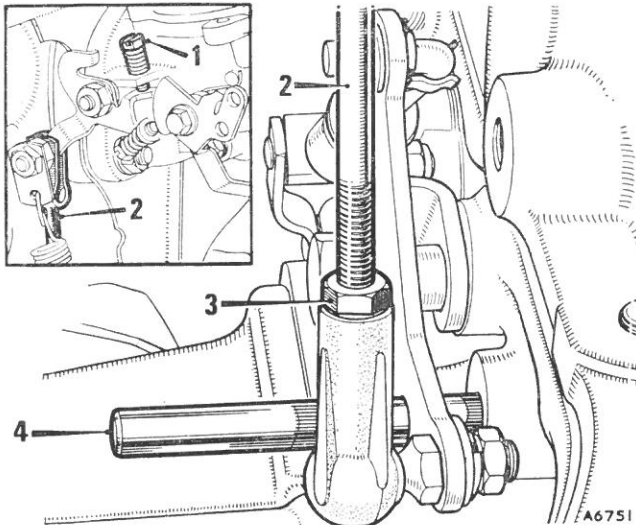

Fig. Fa.3
- (18) With the carburettor correctly tuned, adjust the throttle adjusting screw to give a tachometer reading of 650 r.p.m. at tickover.
- (19) Insert a  $\frac{1}{4}$  in. (6.4 mm.) diameter rod through the hole in the governor control rod bell-crank lever and into the hole in the transmission case (Fig. Fa.3).
- (20) Slacken the locknut (3) (Fig. Fa.3) and adjust the length of the rod to suit the carburettor linkage in the tick-over position.
- (21) Reconnect the governor control rod to the carburettor. Tighten the ball joint locknut and remove the checking rod from the bell-crank lever.